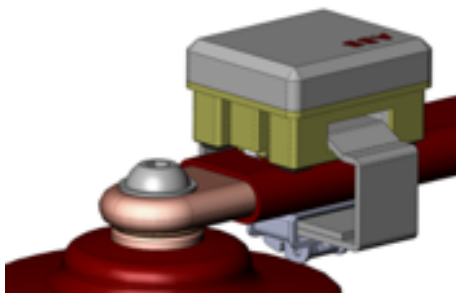

Figure 2
6. The sensor probe should be placed near the bus bar connection (See fig.2)